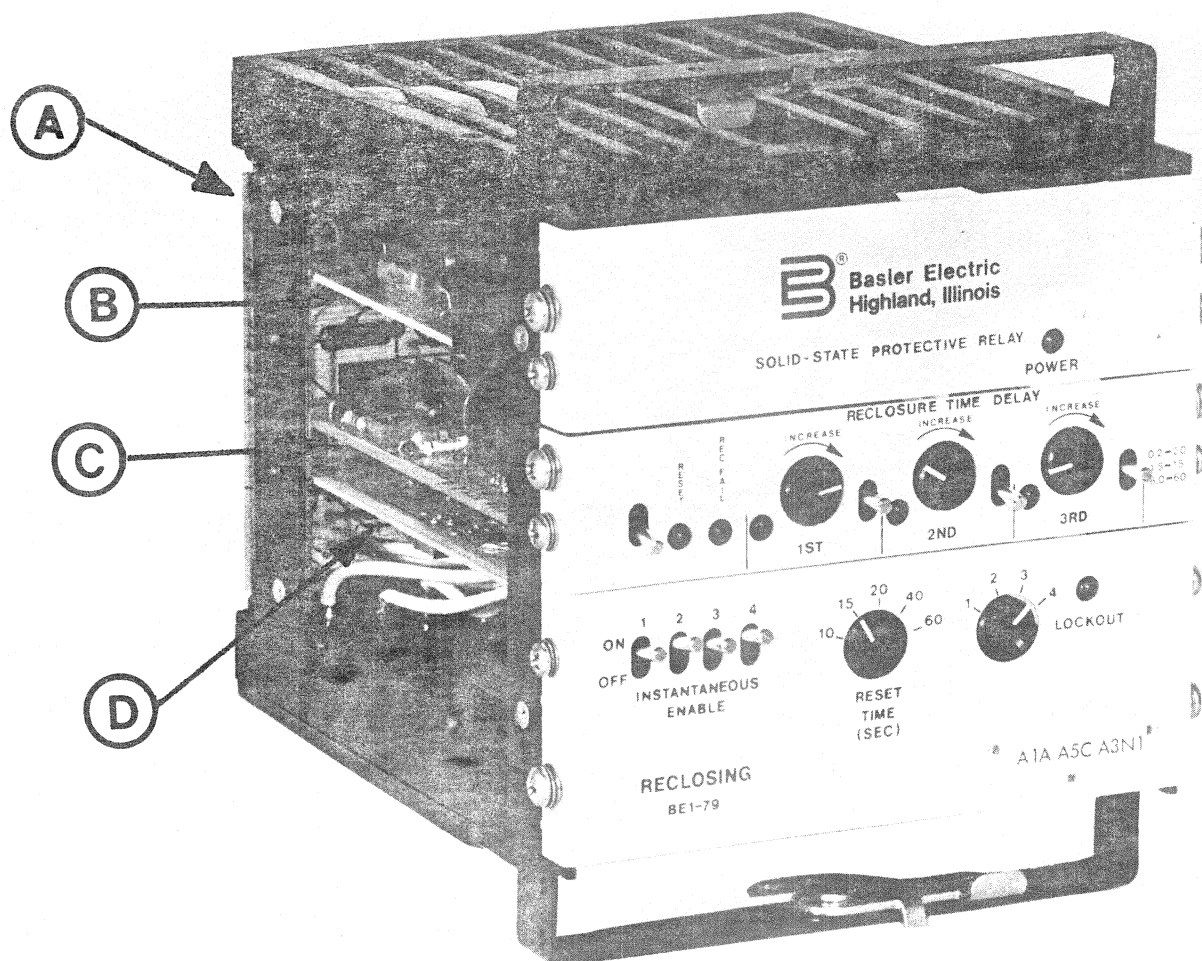

Figure 3-2. PC Board Identification and Location
- Step 3. Remove applicable printed circuit board from the mother board by pulling straight out. (See figure 3-2 for PC board identification and location within the cradle and table 3-1 for board name and function).